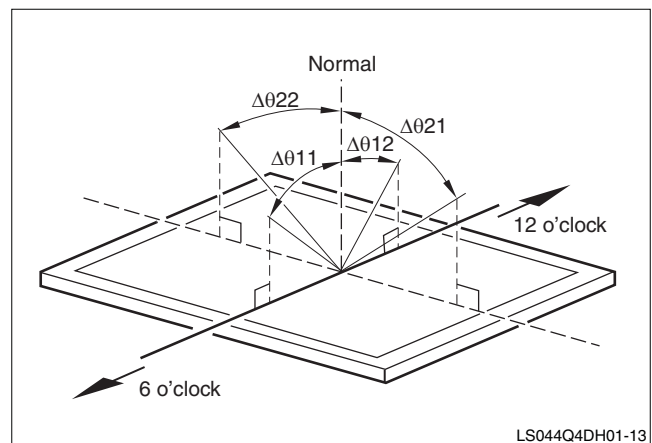

Figure 2. Viewing Angle
1. Viewing Angle is described as clock positions: θ12 = 12 o'clock, θ11 = 6 o'clock, θ21 = 3 o'clock, θ22 = 9 o'clock. See Figure 2.